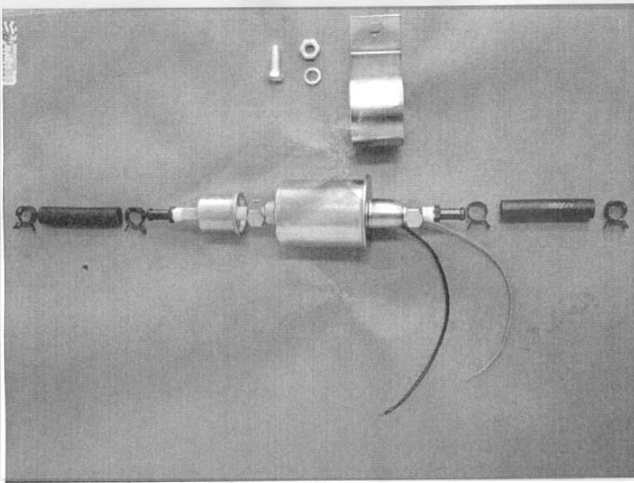

Figure 3. View showing orientation of hose and hose clamps.
3. Additional hose clamps and hose will be installed as noted per Figure 3 depending on final application.